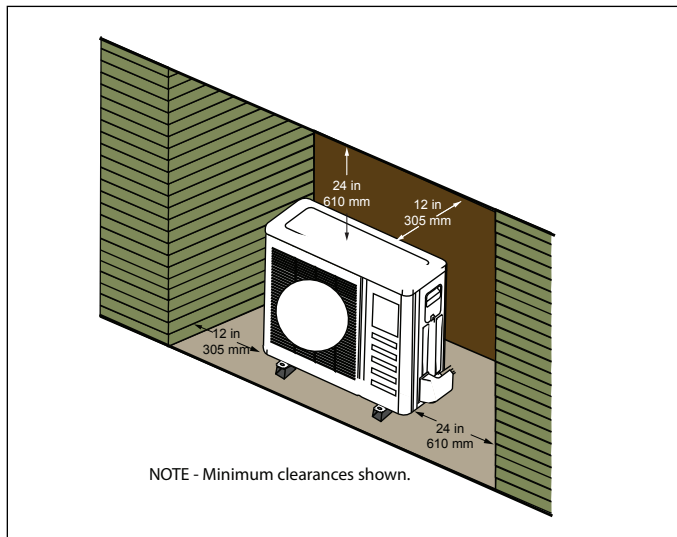

Figure 19. Unit Installed in Alcove
- Outdoor unit can be installed in a alcove or under a roof overhang as illustrated in “Figure 19. Unit Installed in Alcove”.